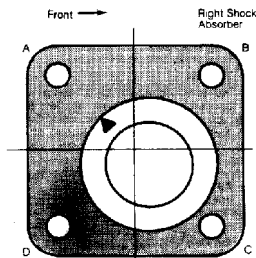

Fig. 1: RX7 & 626 Caster & Camber Adjustment Using MacPhearson Strut Support
2) Raise front of vehicle and support with jack stands. Press strut downward and change position of support according to Table and Fig. 1.